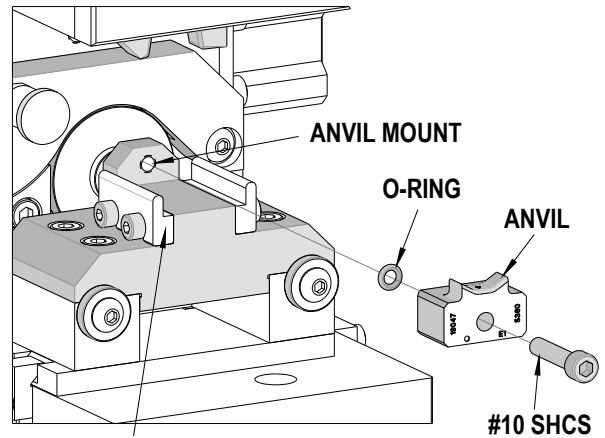

Figure 2-9
3. To remove the anvils, use a 5/32" hex wrench to remove the #10 SHCS holding the anvils to the anvil mount. See Figure 2-9.